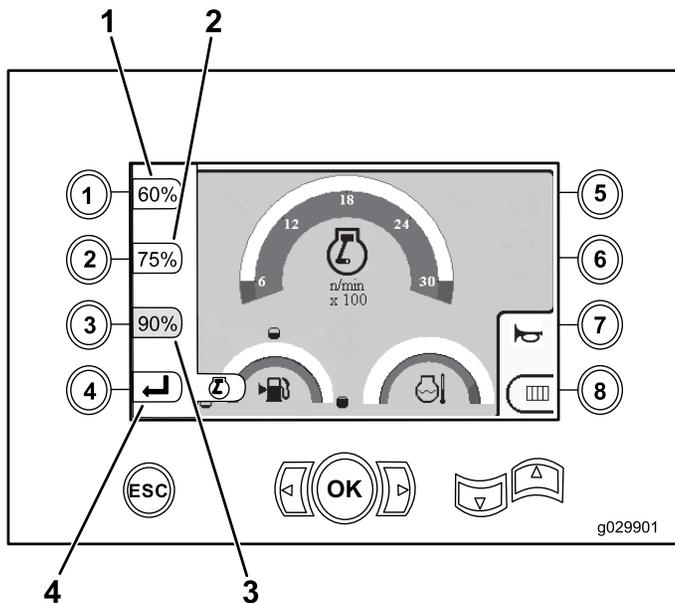

Figure 6
- Button 1 to activate 60% engine speed (rpm) as shown in Figure 6.
- Button 2 to activate 75% engine speed (rpm) as shown in Figure 6.
- Button 3 to activate 90% engine speed (rpm) as shown in Figure 6.
- Button 4 to return to the main-operating screen (Figure 6).